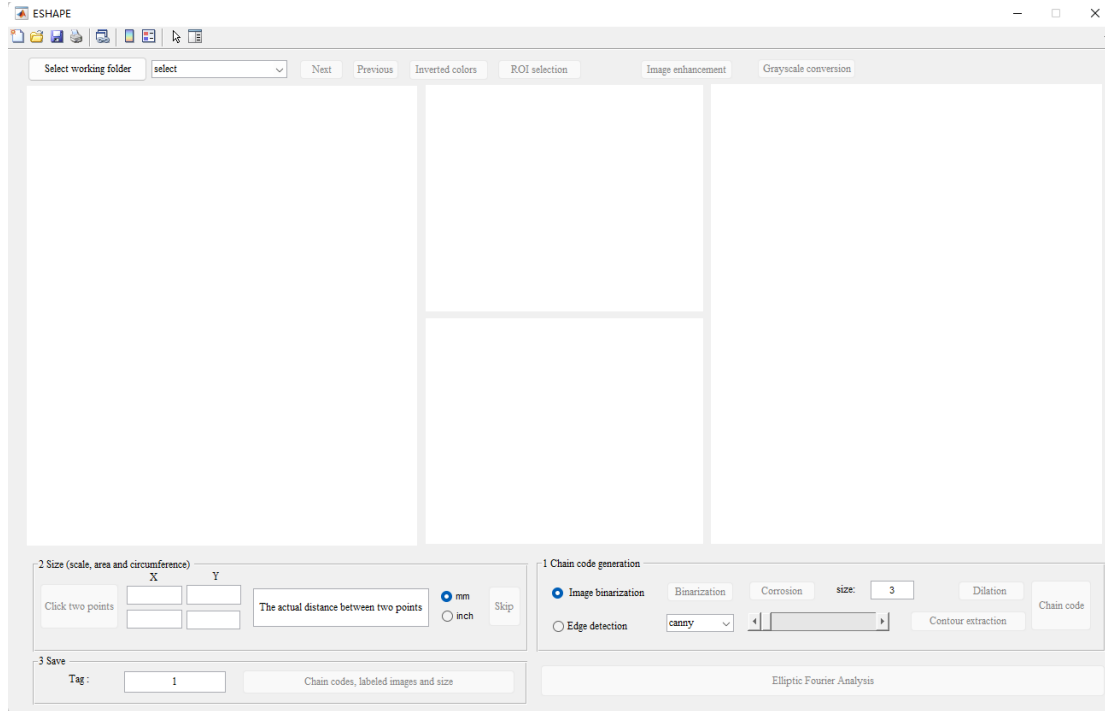

Figure 1
(1) For the MATLAB environment: Locate the 'ESHAPE.m' file and run it using MATLAB 2016a or later. This action will guide you to the main program interface. A successful installation will be indicated as shown in Fig. 1.
(2) For the standalone application: In cases where MATLAB 2016a or a more recent version is not already installed, an installer that includes the necessary MATLAB Runtime is provided. Locate and double-click the 'installer_ESHAPE.exe' file to generate the 'ESHAPE.exe' file. Subsequently, double-click on 'ESHAPE.exe' to launch the application. A successful installation will be indicated as shown in Fig. 1.